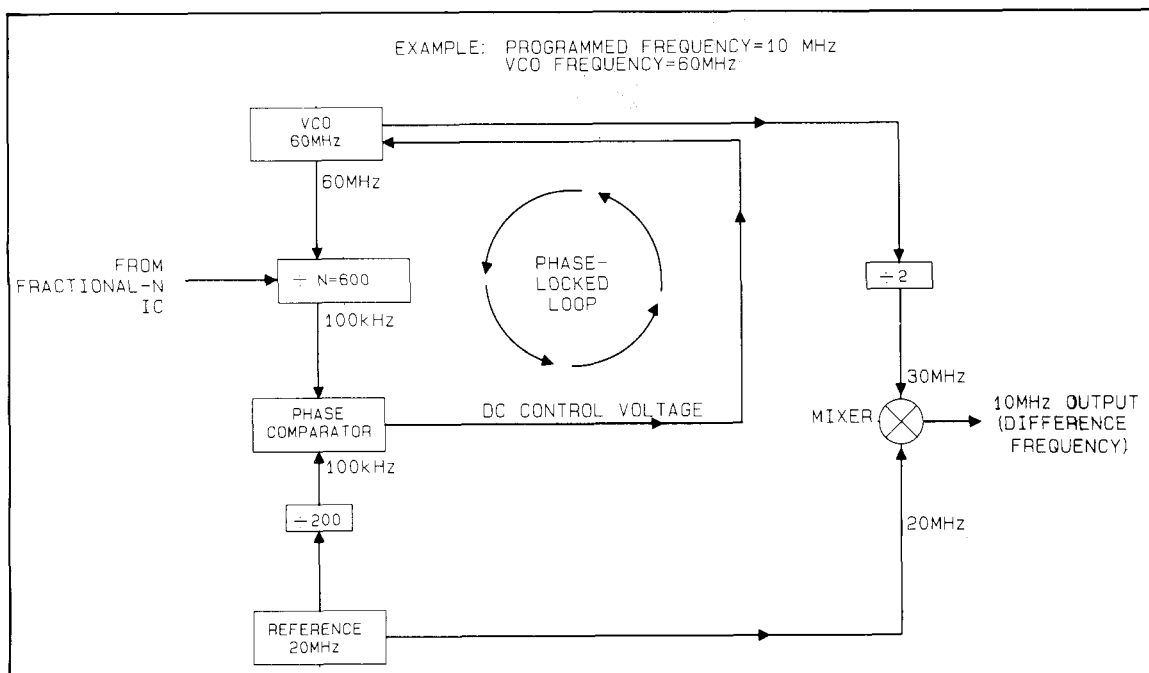

Figure 6-35. Phase-Locked Loop Block Diagram
As an example, consider a programmed output frequency (F_{prog}) of 10 MHz (Figure 6-35). The VCO must operate at 60 MHz (F_{vco}) and the divide-by number (N) must be 600 to reduce the F_{vco} to 100 kHz, as required by the phase comparator. When the desired output changes from 10 MHz to 13 MHz, N must change from 600 to 660. This changes the divided VCO output to approximately 91 kHz. The phase comparator (A33) detects the new phase relationship between the inputs and produces a new dc voltage (A VCO CONT), which changes F_{vco} to 66 MHz. This returns both phase comparator inputs to 100 kHz and locks the loop.